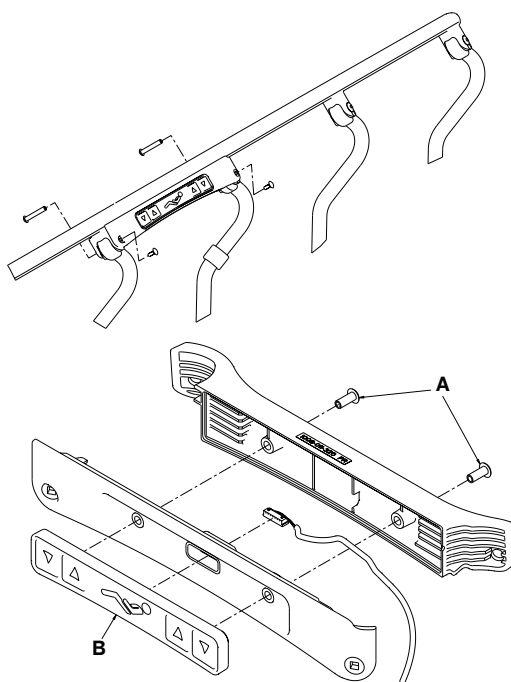

Figure 32 – Siderail control pad replacement
3. Using a #2 Phillips screwdriver, remove the two barrel nuts (A) that secure the control pad to the top rail (Figure 32).